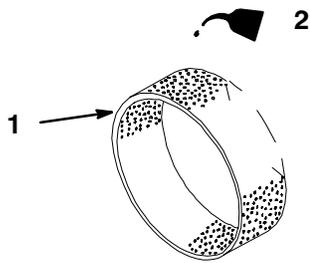

Figure 18
4. Put one or two ounces of oil on the element (Fig. 18). Squeeze the element to distribute the oil.